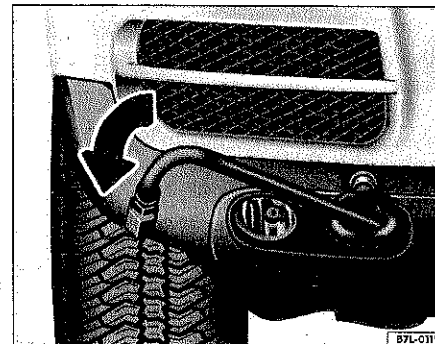

Fig. 53 Right front section: screwing in the towing eye.
The threaded hole for the towing eye is in the front bumper on the right side ⇒ fig. 53 from the tool kit in the luggage compartment.
- Screw the towing eye in, in the direction of the arrow up until the stop-point in the threaded hole ⇒ fig. 53.